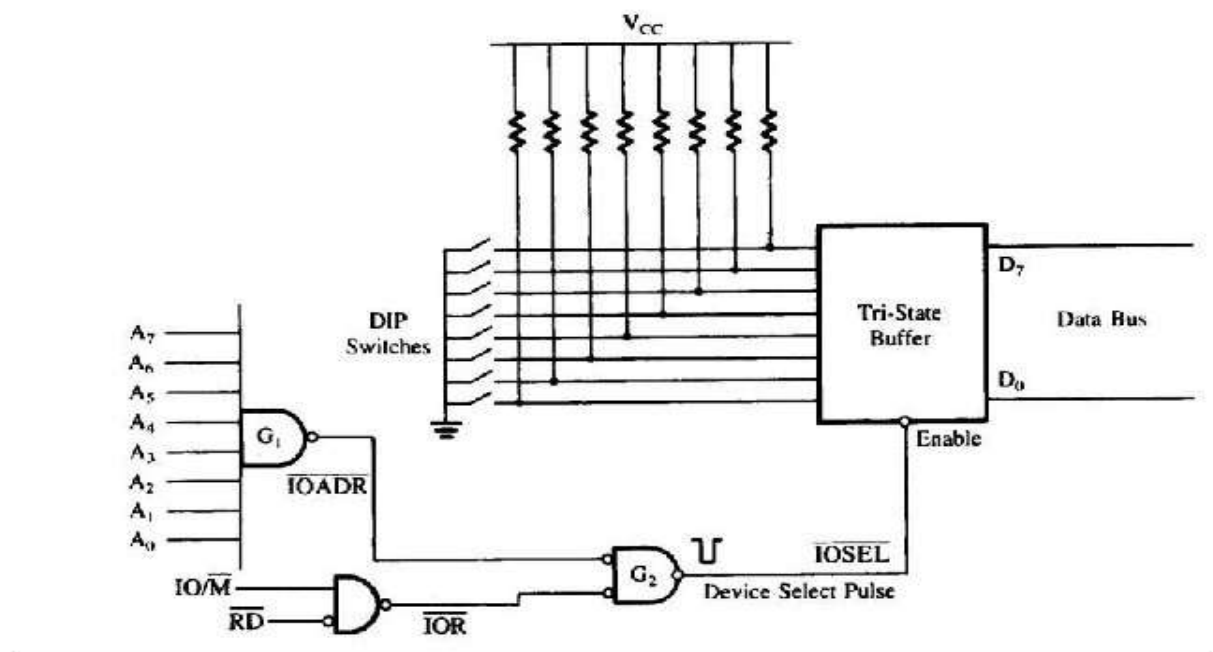

Figure 4: IN FFH
- The assembly instruction for that circuit in fig. 4 is IN FFH.